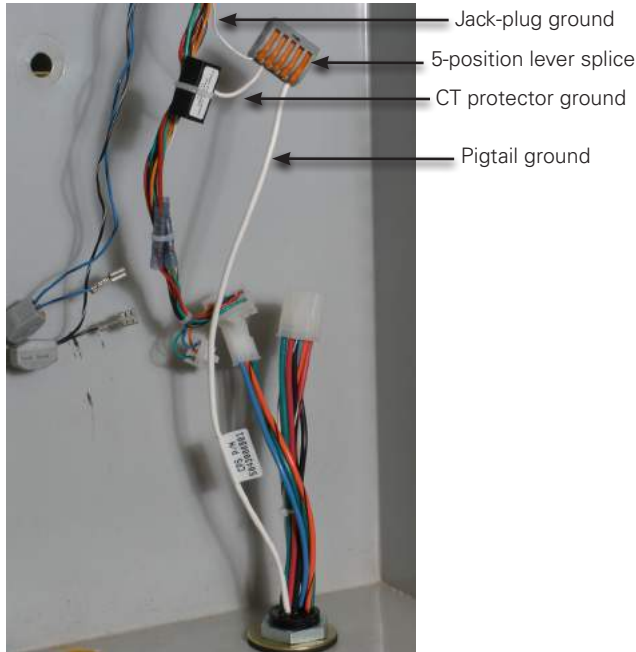

Figure 35. Connecting the three ground wires.
12. Use the 5-position lever splice to connect the ground wires from the pigtail, CT protector device, and jack plug harness. See Figure 35.